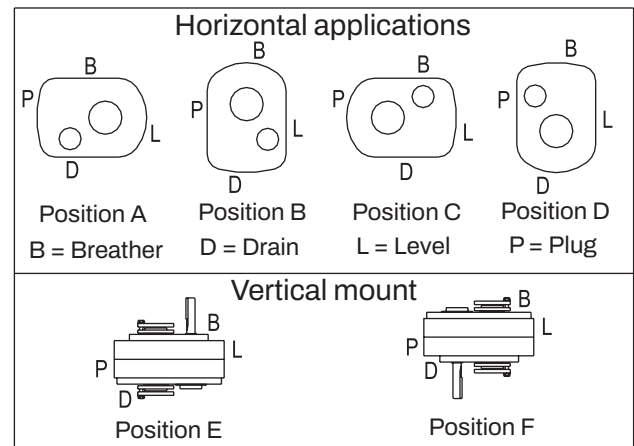

Figure 1 - Mounting Positions
2. Determine the running position of the reducer (see Fig. 1). Note that the reducer is supplied with either 6 plugs; 4 around the sides for horizontal installations and 1 on each face for vertical installations. These plugs must be arranged relative to the running positions as follows:
The running position of the reducer in a horizontal application is not limited to the four positions shown in Figure 1. However, if running position is over 20° either way from sketches, the oil level plug cannot be safely used to check the oil level, unless during the checking the Torque-Arm is disconnected and the reducer is swung to within 20° in positions “B” and “D” or 5° in positions “A” and “C” of the positions shown in Figure 1. Because of the many possible positions of the reducer, it may be necessary or desirable to make special adaptations using the lubrication fitting holes furnished along with other standard pipe fittings, stand pipes and oil level gages as required.
① Refer to Figure 1 for mounting positions.
② U.S. Measure: 1 quart = 32 fluid ounces = .94646 liters.
Note: If reducer position is to vary from those shown in Figure 1 either more or less oil may be required. Consult product support.